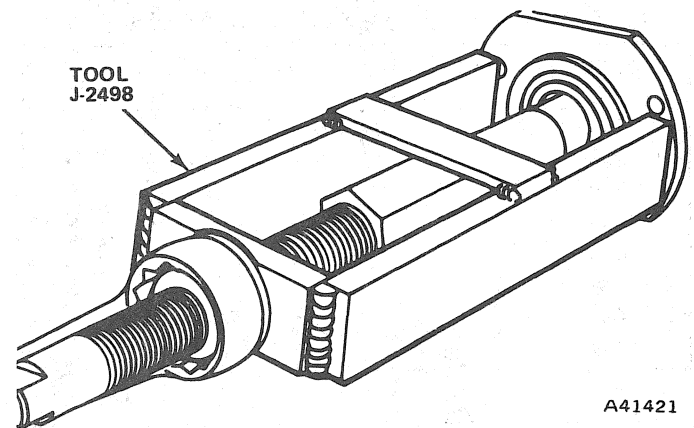

Fig. 2F-20 Axle Shaft Removal—CJ Models
- (4) Remove axle shaft and bearing using Tool J-2498 (fig. 2F-20).